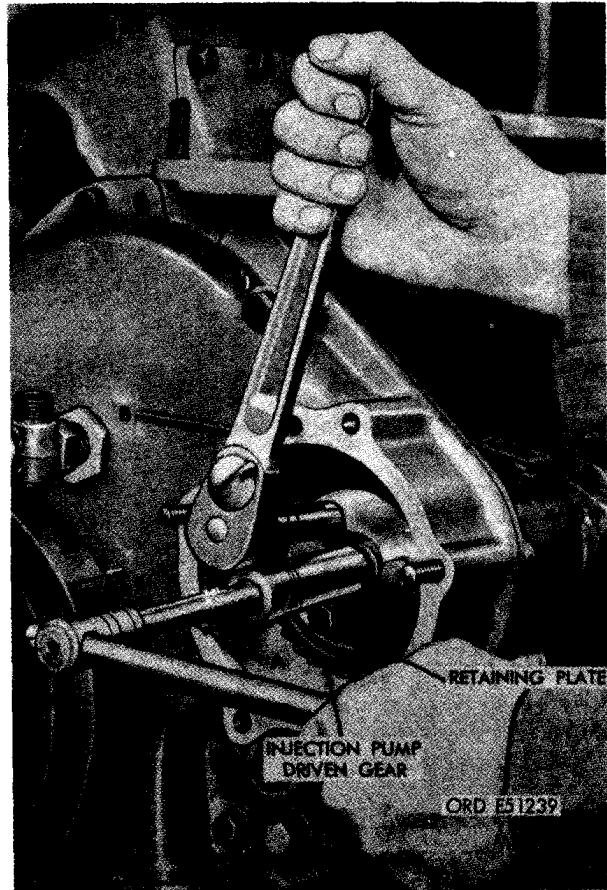

FIGURE 500. SETTING FUEL INJECTION PUMP TIMING IN RELATION TO ENGINE TIMING.
- (6) Figure 500. (A) Using a suitable socket wrench on the hex nut securing the driven gear hub to the fuel injection pump shaft, turn the wrench slightly, in either direction, until the automatic advance unit timing mark on fuel injection pump is
Set fuel injection pump timing in relation to engine timing following instructions for figure 500.